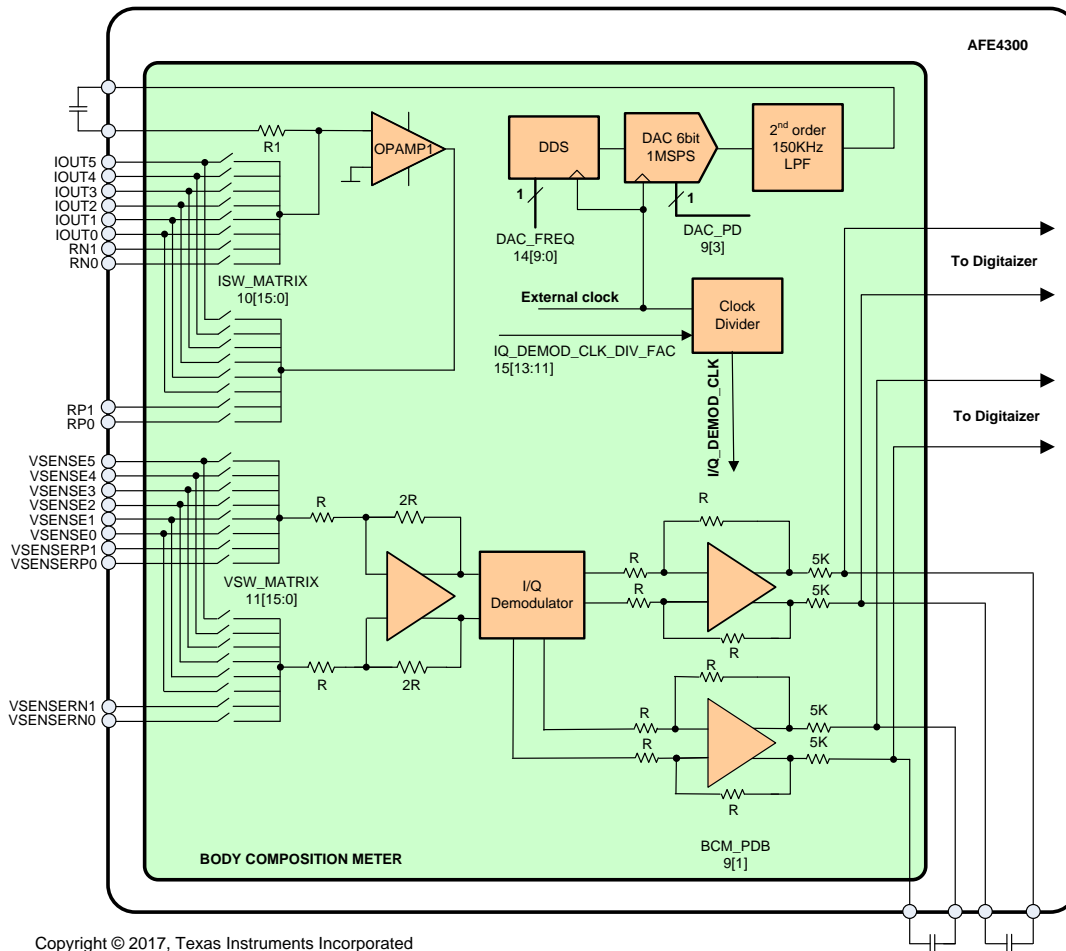

Figure 8. BCM in I/Q Demodulator Mode
The AFE4300 includes a second circuit that with a single frequency measurement, obtains both the real and the imaginary portions, as shown in Figure 8. As explained previously, the portion of the circuit injecting the current into the body is the same for both configurations. Therefore, the circuit is the same in Figure 7 and Figure 8. The difference between them is that an I/Q demodulator is used in this second approach, as shown in Figure 8.
The I/Q demodulator takes the $v(t)$ signal and outputs two dc values. These two values are used to extract the impedance module and phase with a single frequency measurement. Figure 8 shows the block diagram of the implementation. Using the I/Q demodulator helps reduce power consumption and still yields excellent performance. The local oscillator (LO) signals for the mixers are generated from the same clock driving the DDS/DAC and are of the same phase and frequency as the sinusoidal $i(t)$ (see Equation 5). The LO signals directly control the switches on the in-phase (I) path, and after a delay of 90° degrees, control the switches on the quadrature (Q) path. This switching results in multiplying the $v(t)$ signal by a square signal swinging from -1 to 1.